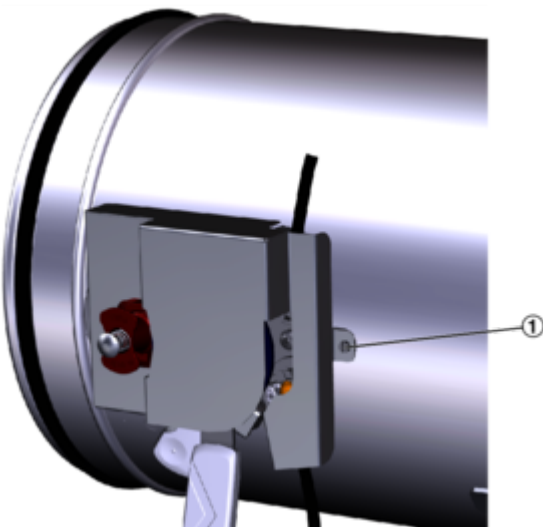

Fig. 3: FKR-EU Potential equalisation connection
- Spigot version: Screw (1) Fig. 3 on release device